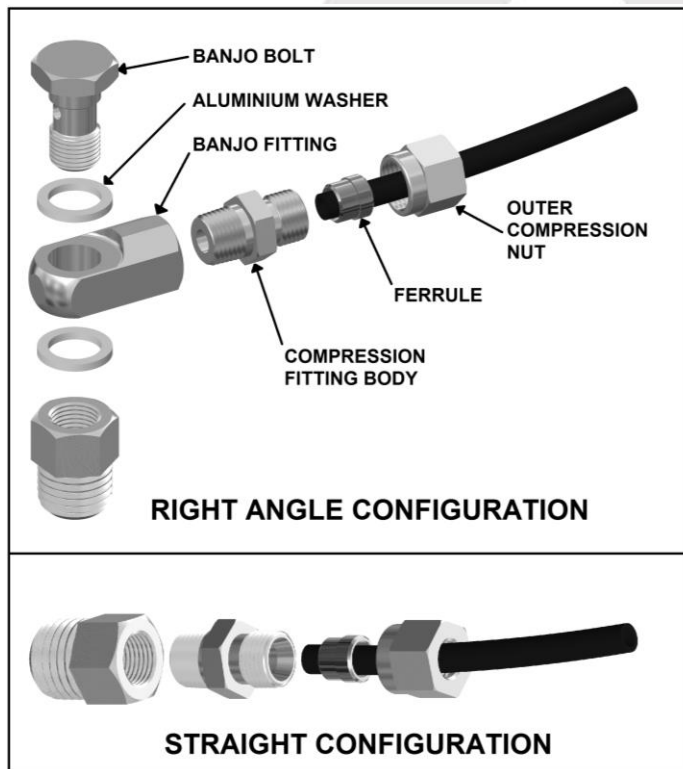

Figure 18.
- Assemble an aluminium washer onto the banjo bolt and insert through the banjo fitting. Assemble second aluminium washer and tighten into bulkhead fitting using a 14mm [9/16"] spanner. (Fig.18.)
- Insert the outer compression nut and ferrule over the air line. Ferrule should be orientated as per Fig.18.
NOTE : When right angle routing of the tube is not required, screw the compression fitting body straight into the bulkhead fitting body (Fig.18.).